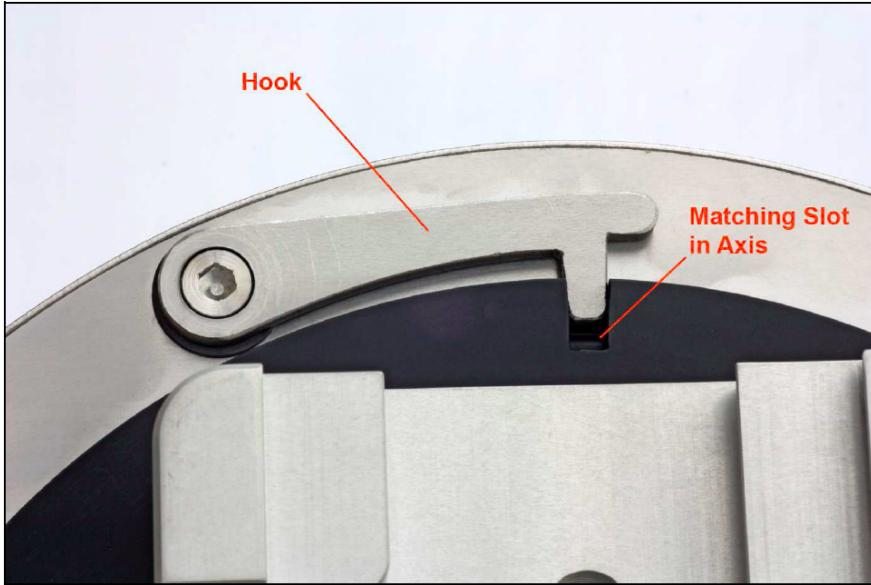

Figure 1: The mount has two of these “hooks” that are used to lock the axes when not in use. Figure from Mesu 200 Mount Quick Guide.
- (a) Make sure both the R.A. and Dec. axes are locked with the two “hooks”, see Fig. 1.